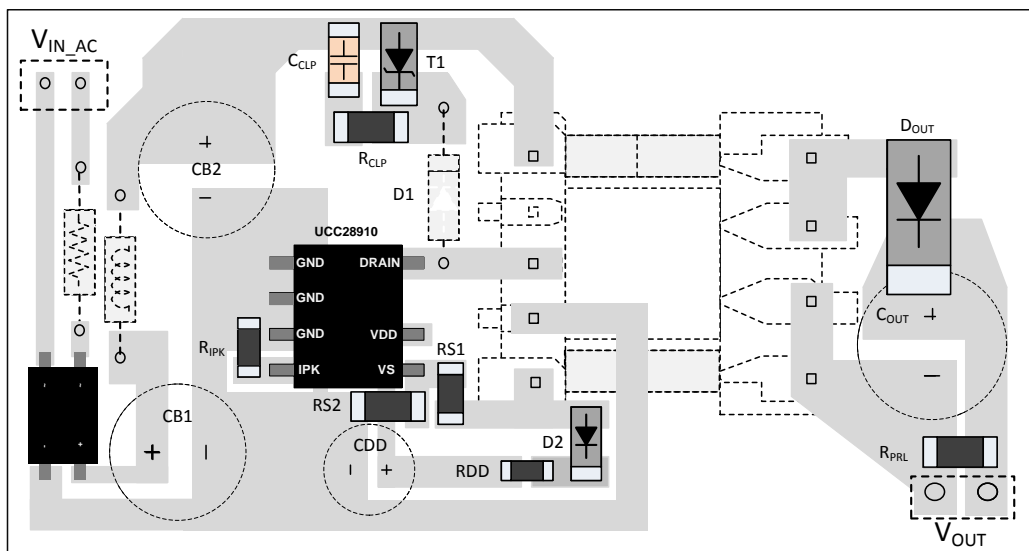

Figure 41. UCC28910 Layout Example
5. Place the auxiliary voltage sense resistor divider ( $R_{S1}$  and  $R_{S2}$  in Figure 41) directly on the VS pin keeping traces as short as possible.